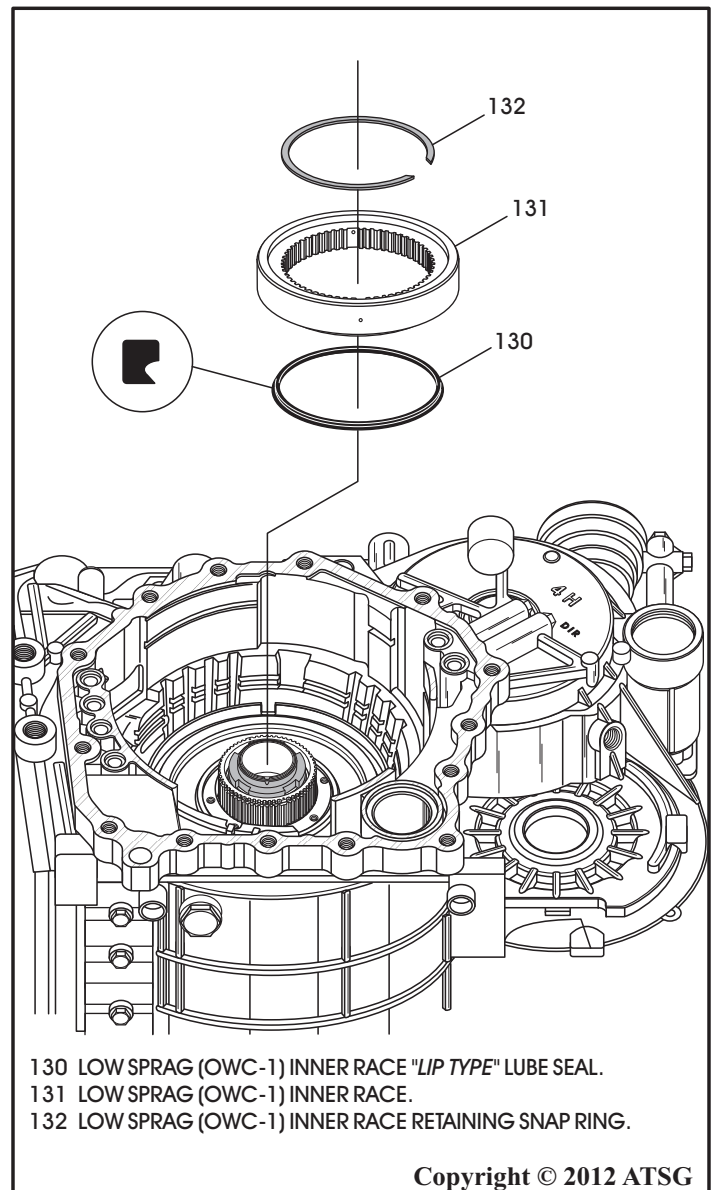

Figure 240
6. Install the sprag inner race, with the seal side facing down, as shown in Figure 240.